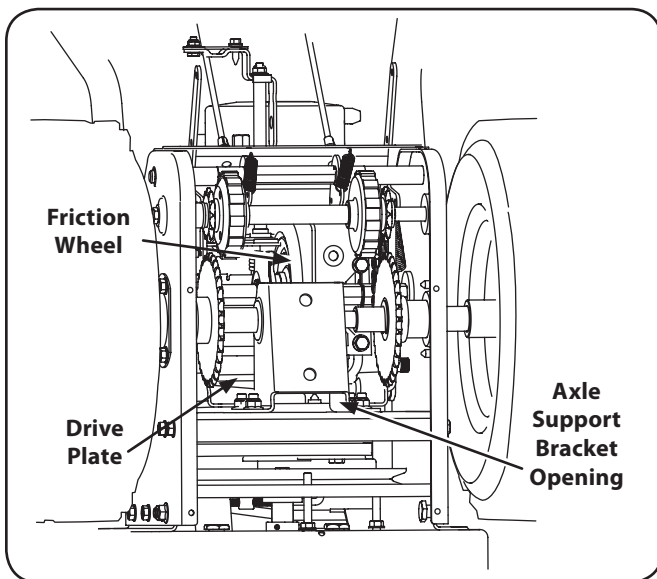

Figure 6-9
2. Locate the opening between the axle support bracket and the front frame support (See Figure 6-9). Looking through this opening, with the wheel drive control released, there must be clearance between the friction wheel and the drive plate in all positions of the speed selector lever.
3. With the wheel drive control engaged, the friction wheel must contact the drive plate. See Figure 6-9.